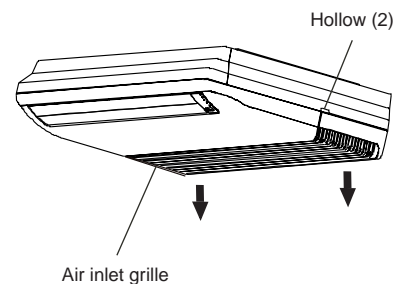

Fig. 3
- 1) Open air inlet grille by seizing it at both sides, near the hollows on Indoor Unit's frame (Fig. 3).